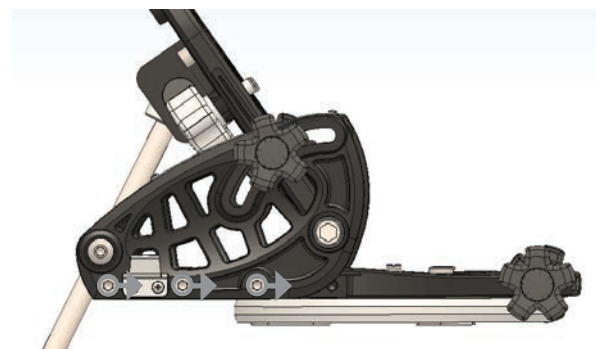

Figure 3
3. Slide the entire wedge forward so that the holes line up with the front three holes on the base plate. (Figure 3).